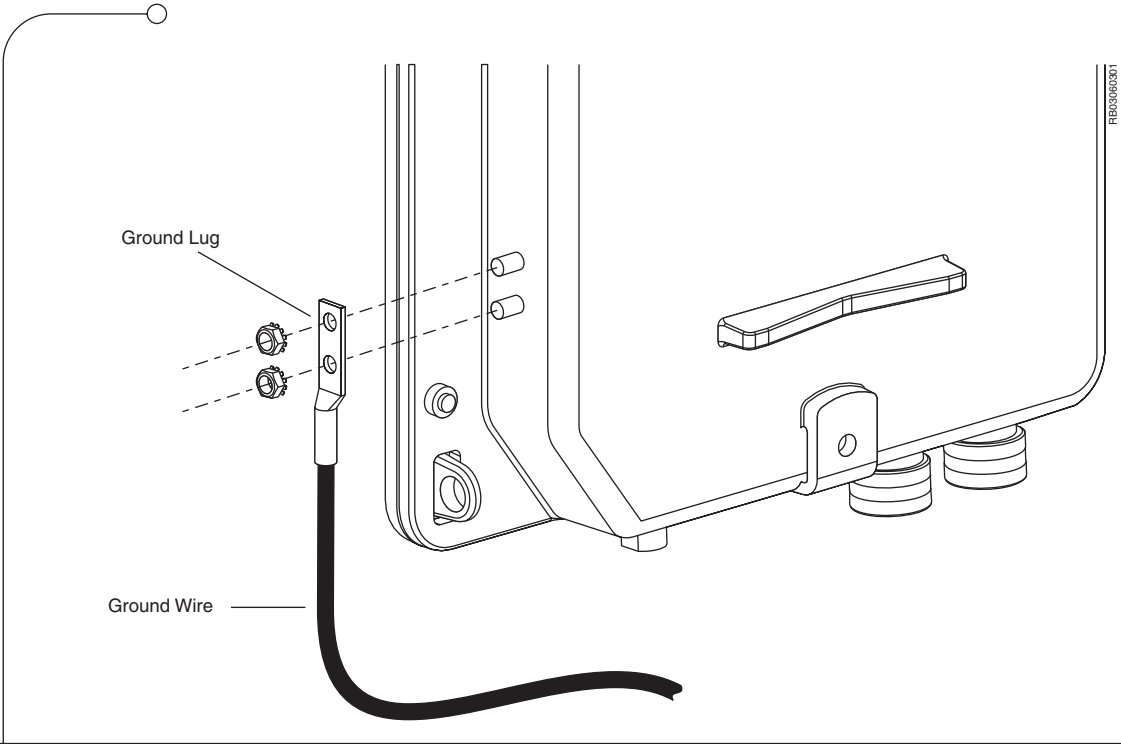

Figure 3.7 STS Grounding Connection
1. Remove the ground lug from the STS, as shown in Figure 3.7 on page 37.